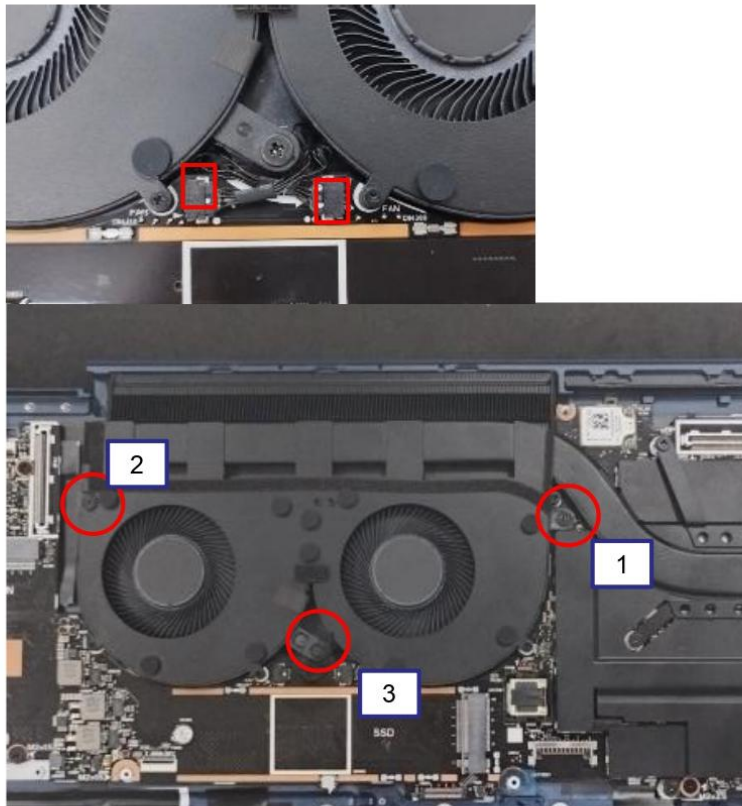

Figure 1
-   1. Disassemble fan CNTR , Disassemble Fan set screw*3 (fig1)
1. Tear off the WW conductive cloth, remove the SET screw*5, and remove the thermal (Figure 1).